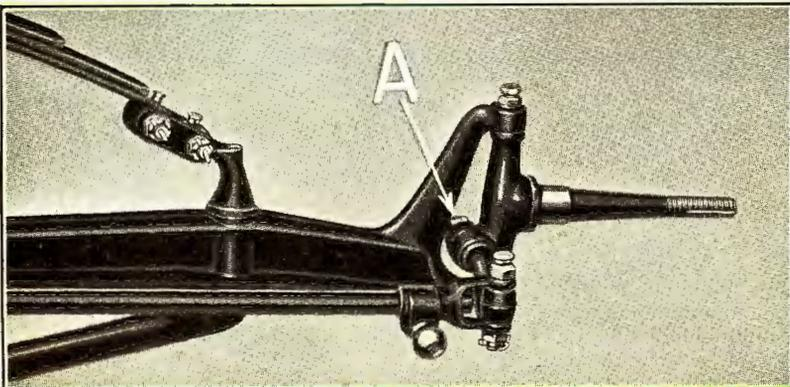
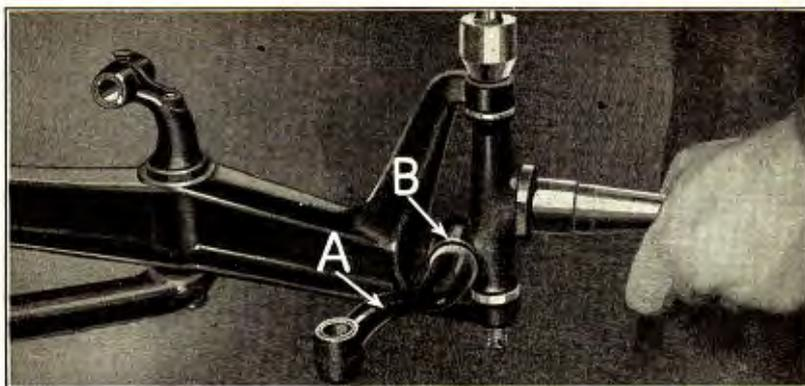

Fig. 370
Fig. 371
- 686** Examine spindles and spindle arms for alignment and wear. If arm is sprung or badly worn where it fits into spindle, a new arm should be installed. To remove arm from spindle, run off spindle arm nut (See "A" Fig. 370). If the arm cannot be removed from spindle by tapping it with a lead or copper hammer, it should be pressed out on an arbor press. Spindles and spindle arms are made in rights and lefts (the spindle arm right is stamped T-280; spindle arm left is stamped T-281). The arms are assembled to the spindles with the offset in the arm (See "A" Fig. 371) facing up and pointing in. The spindle body is assembled to the axle with the spindle pointing outward and the chamfered side of the arm hole "B" facing rear of car.
- 689** Position spindle on axle, oil spindle bolt and insert it through axle and spindle, running the bolt down into lower side of axle (See Fig. 371). The bolt is then drawn down until the correct tightness is obtained; this can be checked by turning the spindle back and forth by hand. A slight resistance should be felt when moving the spindle. When the correct adjustment is obtained run on the spindle bolt nut, drawing it down tightly against axle, and locking the nut with a cotter key.